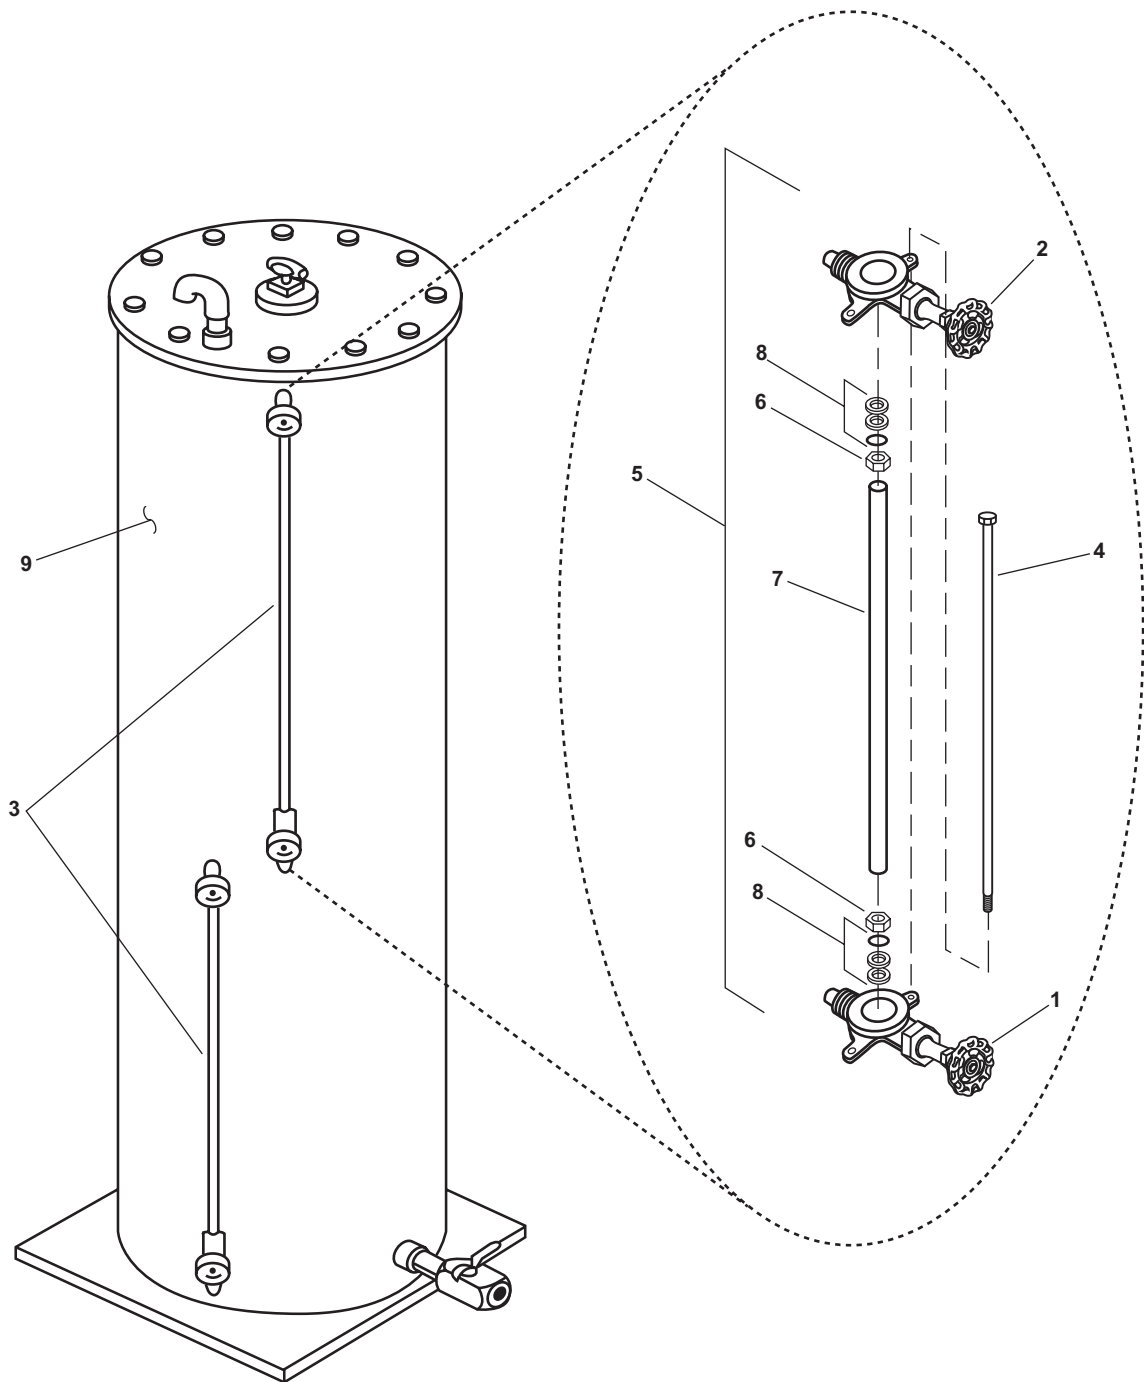

Figure 2. Wet Well Sight Glass Replacement
5. CLOSE the sight glass (liquid sight indicator) inlet valve (figure 2, item 1) and the sight glass outlet valve (figure 2, item 2) on the affected sight glass (figure 2, item 3).
6. Remove the rods (figure 2, item 4) that hold the sight glass assembly (figure 2, item 5) together.
7. Unscrew the collars (figure 2, item 6) from the inlet valve (figure 2, item 1) and the outlet valve (figure 2, item 2).
8. Slide the sight glass (figure 2, item 7) up into the outlet valve (figure 2, item 2) and then down and out to remove it.
9. Remove the O-rings (figure 2, item 8) from the inlet valve (figure 2, item 1) and the outlet valve (figure 2, item 2). Discard the O-rings.
10. Unscrew the inlet valve (figure 2, item 1) and the outlet valve (figure 2, item 2) from the wet well (figure 2, item 9).
1. Wrap the male pipe threads of the inlet valve (figure 2, item 1) and outlet valve (figure 2, item 2) with anti-seizing tape and thread them into the wet well (figure 2, item 9).
2. Install new O-rings (figure 2, item 8) into the outlet valve (figure 2, item 2) and the inlet valve (figure 2, item 1).
3. Slide the collars (figure 2, item 6) onto the new sight glass (figure 2, item 7).
4. Slide the sight glass (figure 2, item 7) up into the outlet valve (figure 2, item 2) and then down into the inlet valve (figure 2, item 1). Secure the sight glass by tightening the collars (figure 2, item 6).
5. Install the rods (figure 2, item 4) in the sight glass assembly (figure 2, item 5).
6. OPEN the sight glass inlet valve (figure 2, item 1) and the sight glass outlet valve (figure 2, item 2) on the affected sight glass (figure 2, item 3).
11. Verify that there are no leaks at the sight glass (figure 2, item 7) on the wet well (figure 2, item 9).